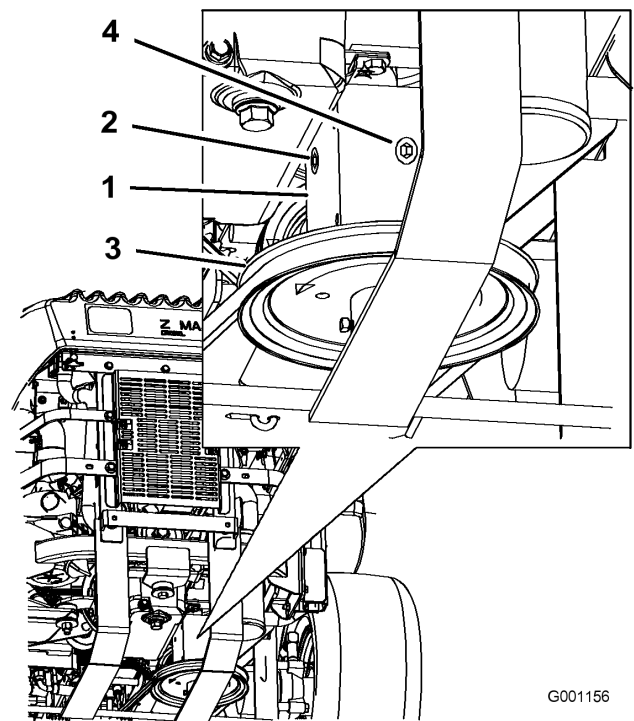

Figure 50
4. Remove the side or rear plug on the gear box. (Figure 50).